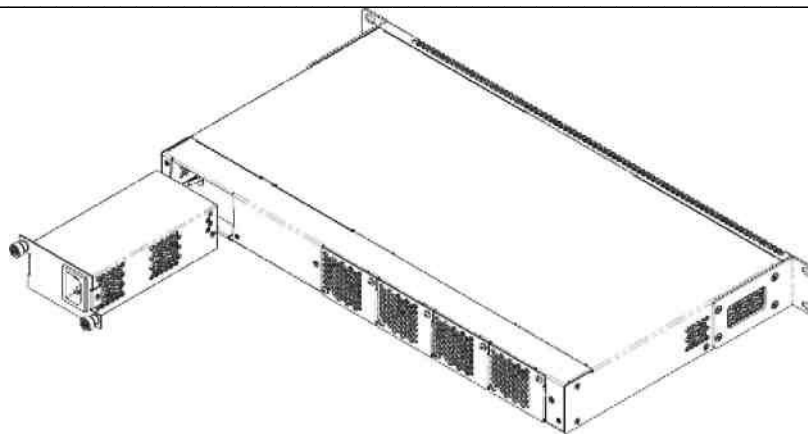

Fig. 7.3. Power Supply Module Installation
Depending on power supply requirements, the terminal can be supplemented with either an AC power supply module, 220 V, 50 Hz, or a DC power supply module, 48 V. The location of the power supply module is shown in Fig. 7.3
Step 1. Install the module to the opening as shown in Fig. 7.3.
Step 2. Ground the case of the device. This should be done prior to connecting the device to the power supply. An insulated multiconductor wire should be used for earthing. The device grounding and the earthing wire section should comply with Electric Installation Code. The earth bonding point is located at the right bottom corner of the side panel, see Fig. 7.3 and 7.2.